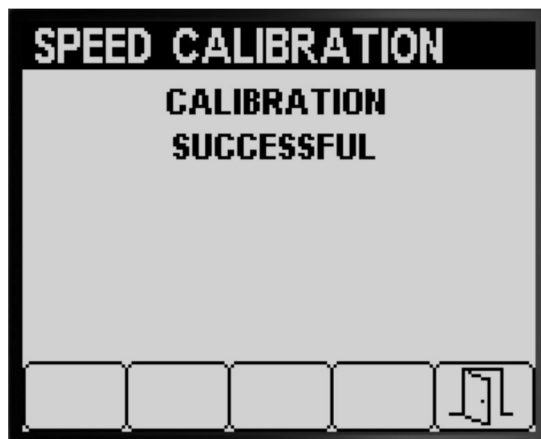
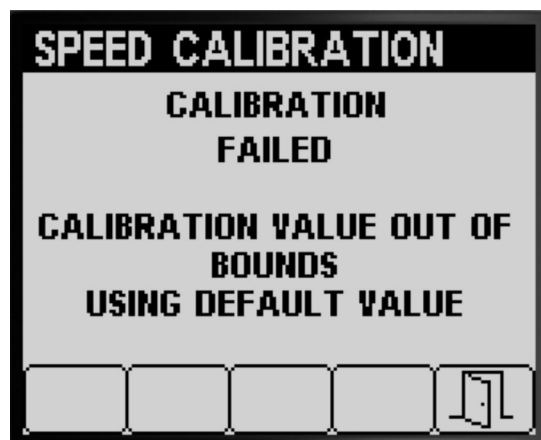

Figure 68
Figure 69
- A message displays confirming that the speed calibration is successful (Figure 68).
- A message displays indicating that the speed calibration is failed (Figure 69).
Note: If the calibration value is out of bounds (Figure 69), contact your authorized Toro service dealer; otherwise, review the error message and repeat the calibration steps in Preparing for the Speed Calibration (page 22) and Performing the Speed Calibration (page 23).
- Press button 5 to exit the Speed Calibration screen (Figure 68 or Figure 69).